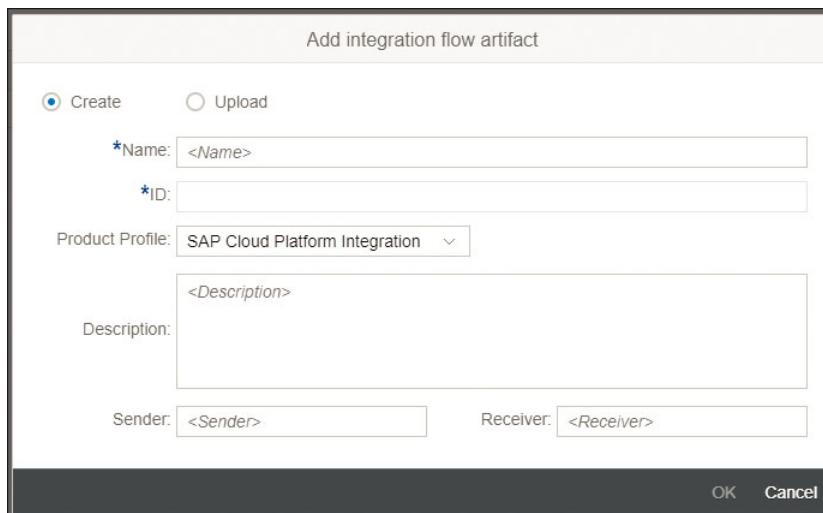

Figure 3.31 Creating or Importing a Process Integration Artifact
6. Artifacts can be added to the newly created package by creating them from scratch if they don't already exist. Alternatively, the artifacts can also be imported if they already exist. These two options are made possible using the **Create** or **Upload** radio buttons, as shown in Figure 3.31.